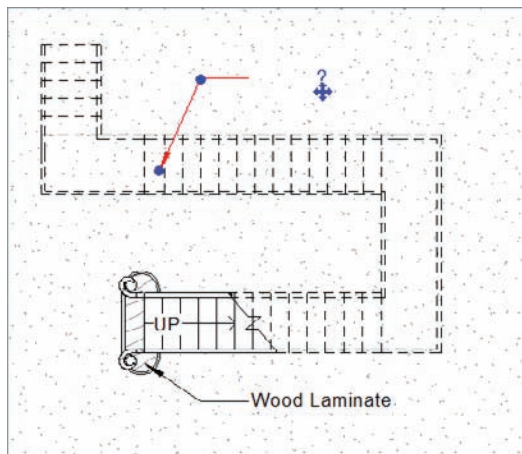

FIGURE 11.101 Picking the stairs to place the keynote
10. Pick the stairs, as shown in Figure 11.101.